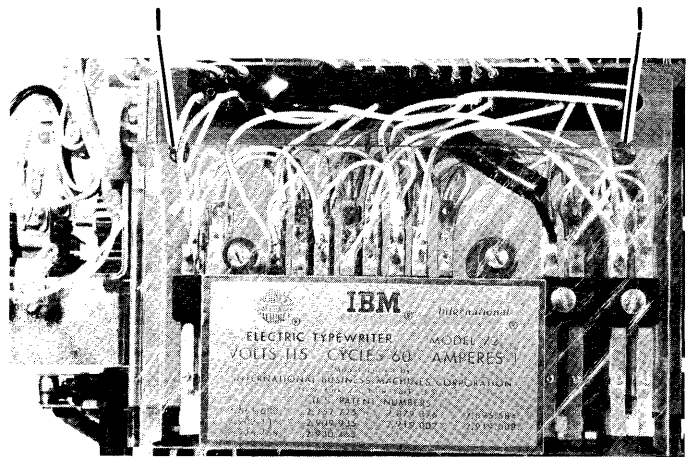

Figure 7. Belt Replacement
6. Remove the two screws (#1, Figure 7) that hold the plate to the frame. Remove the contact assembly, holding it to the front with a rubber band.
12. Force the positive bail down with a screwdriver (#1, Figure 7).